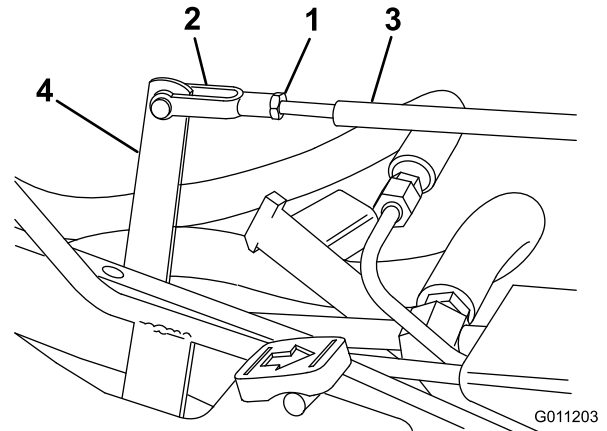

Figure 42
3. Move the adjustment lever by hand to level the mow and lift pedals and adjust the yoke on the control rod until the hole in the yoke lines up with the adjustment lever hole (Figure 42).